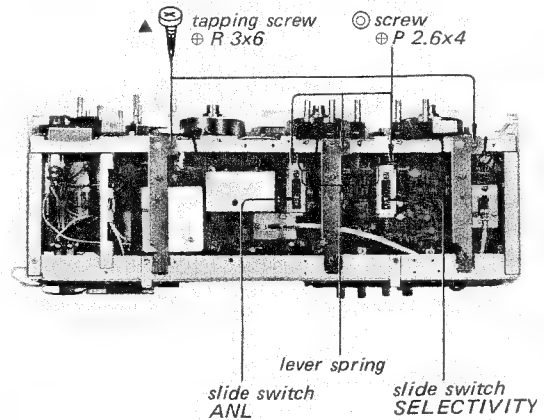

Fig. 2-8
1. Remove the two slide switches with lever springs by removing the two screws marked ▲ in Fig. 2-8.